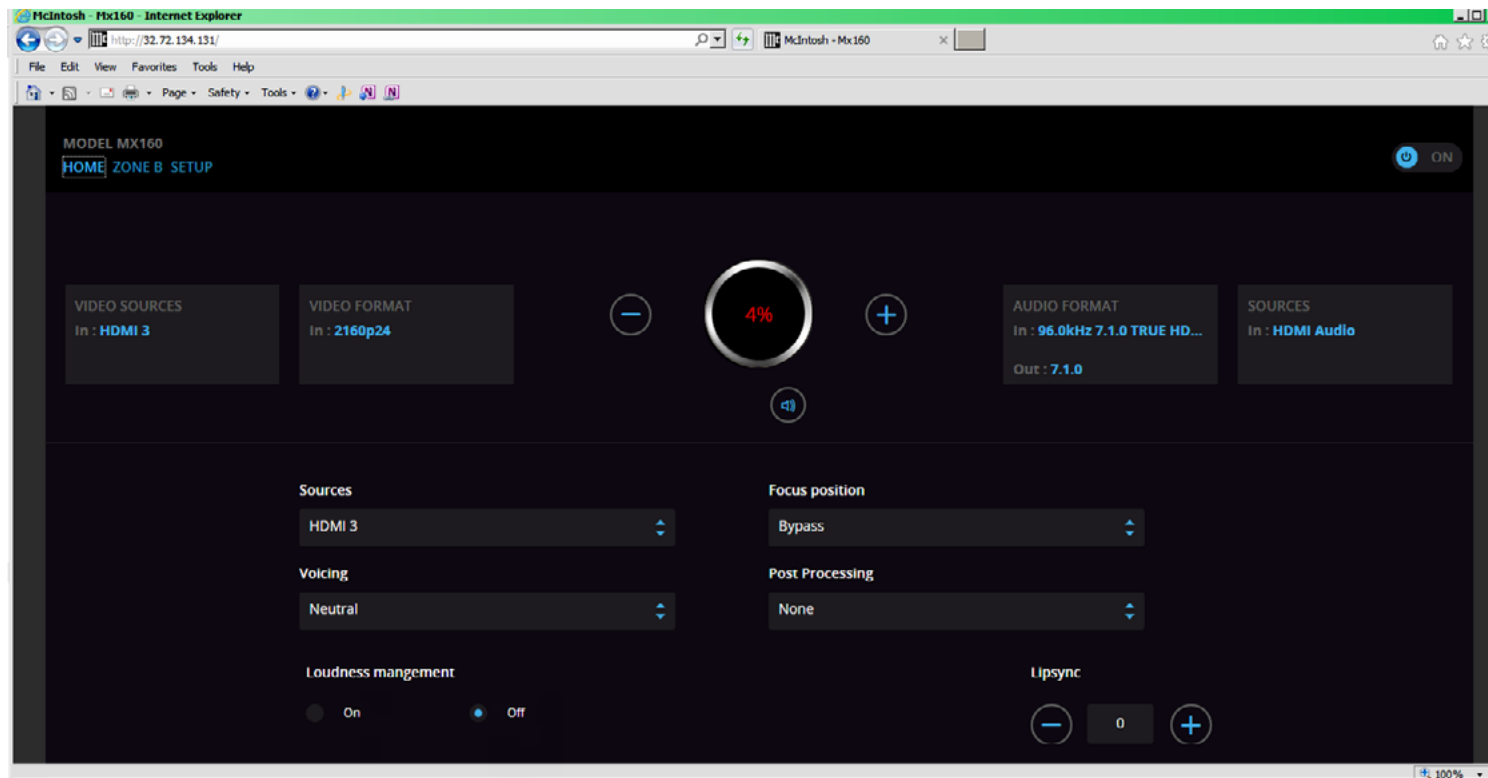

Figure 72
3. Launch the Computer Internet WEB Browser and enter in the URL (Uniform Resource Locator) entry box the current MX160 IP Address "http:// ____ . ____ . ____ . ____" and press return. Refer to figure 72.
In the upper left corner of the Computer WEB Browsers Display there is a three item selection Menu under the title "MODEL MX160". The choices include "HOME (Zone A), ZONE B and SETUP". Refer to figures 72, 73 and 74.